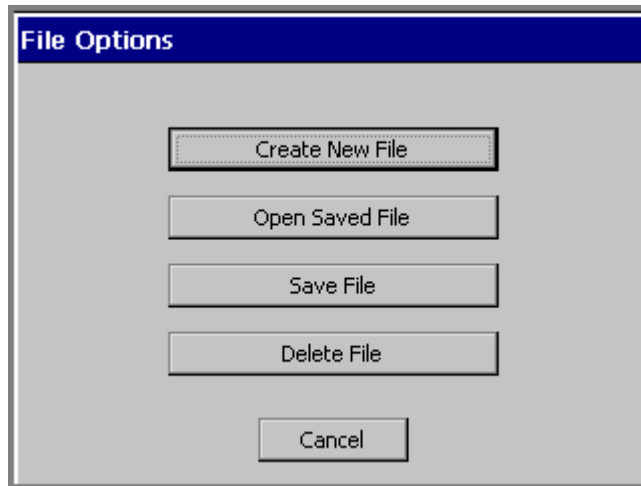

Figure 9-1. The File Options screen.
1. With the unsaved label displayed in the **Editor** window, press <**File Options**>. You'll see the **File Options** screen (Figure 9-1).
1. While in the **Editor** window, press the **<File Options>** key. You'll see the **File Options** screen shown in Figure 9-1 on page 9-4.
2. On the **File Options** screen (shown in Figure 9-1 on page 9-4), choose **Delete File**. You'll see the **File Groups** screen (Figure 9-5 on page 9-8).